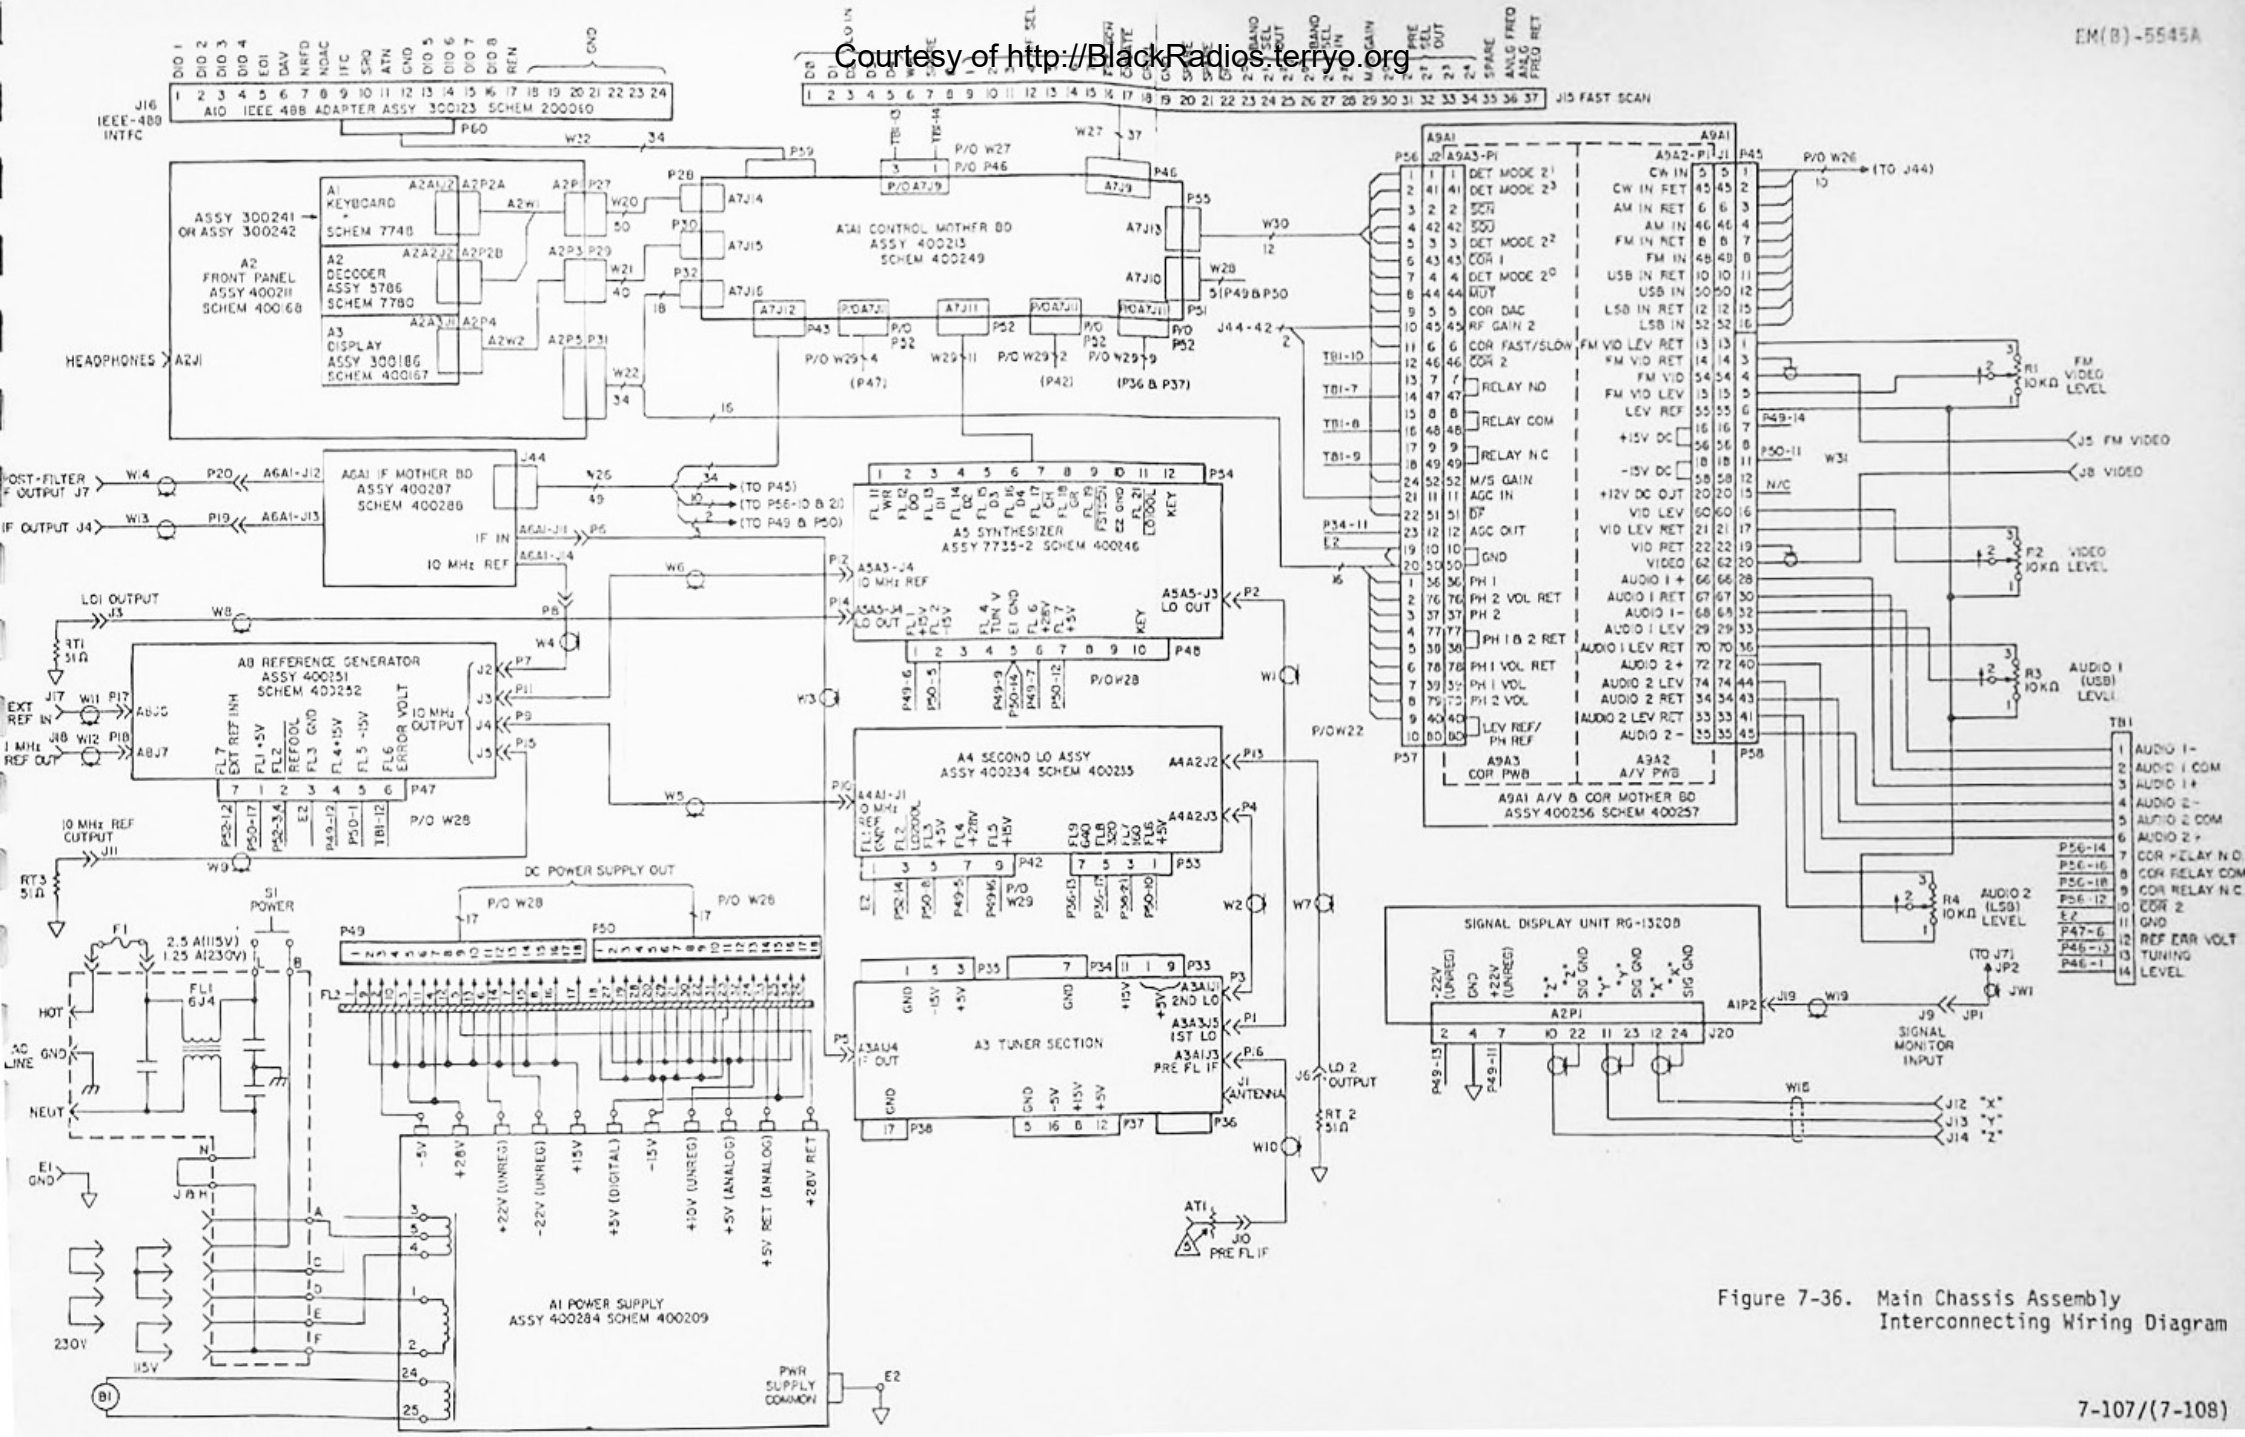
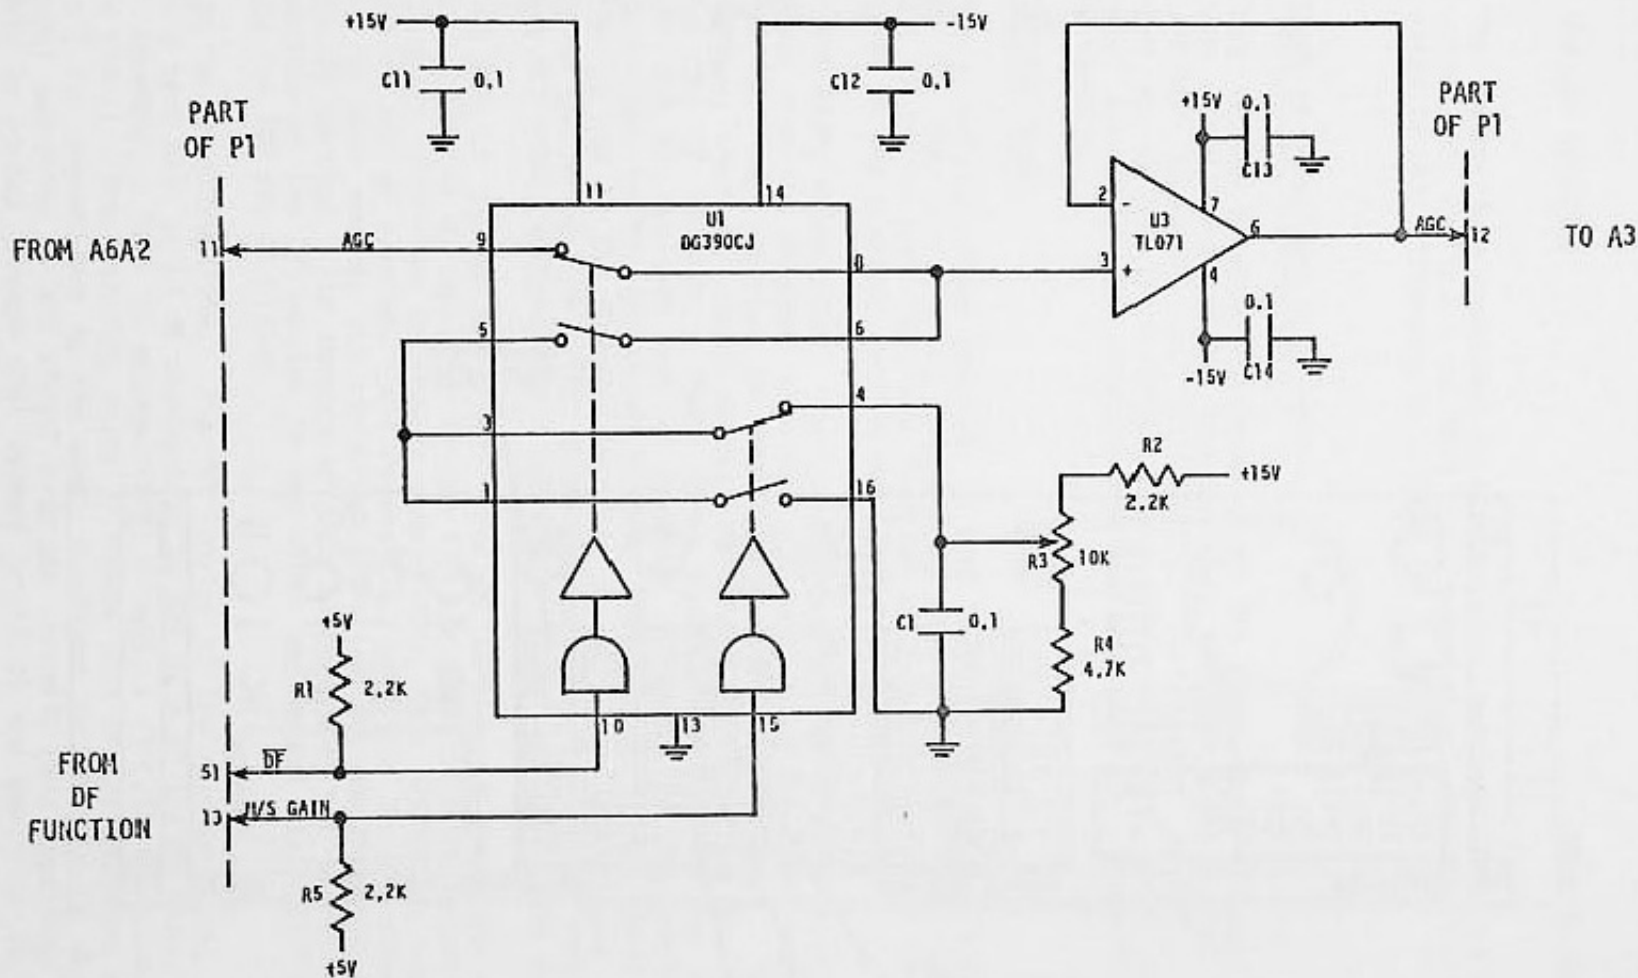

Figure 7-36. Main Chassis Assembly Interconnecting Wiring Diagram
Figure 2. Direction Finding AGC Control, Schematic Diagram
7. **AGC 20 dB ATTENUATION.** The DF version of the receiver uses a circuit to obtain a zero gain or 20 dB attenuation to the gain of the RF signal through the tuner assembly. This is accomplished through a circuit contained on the COR module (A9A3). This circuit, shown in Figure 7-36 of the standard manual and in Figure 2 for convenience to the user, functions differently in the DF version. In normal operation an AGC signal from the variable gain amplifier circuit card assembly is routed through CMOS select switch U1 and amplifier U3 to the tuner